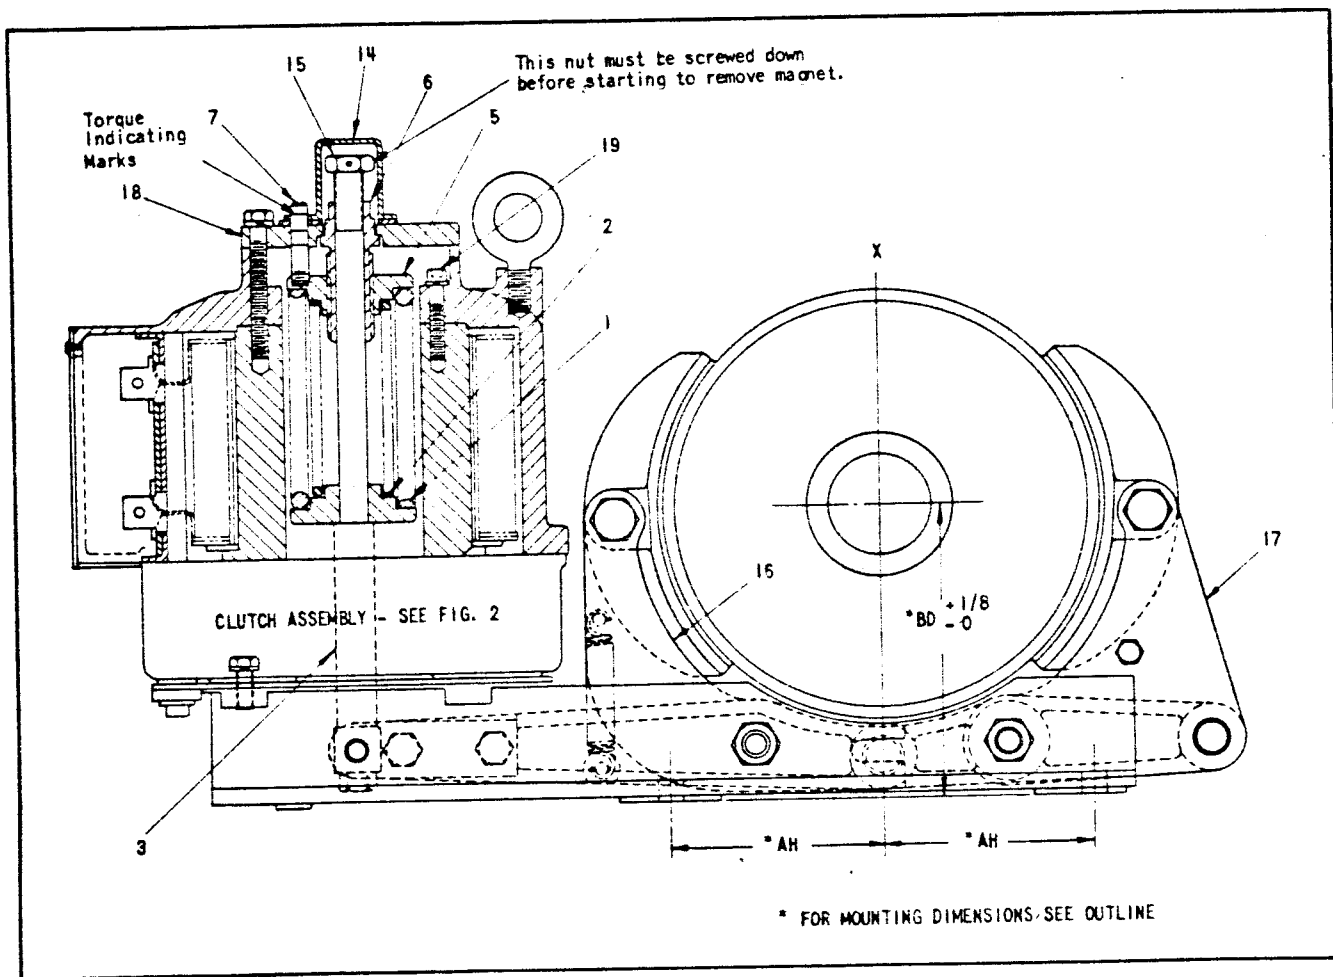
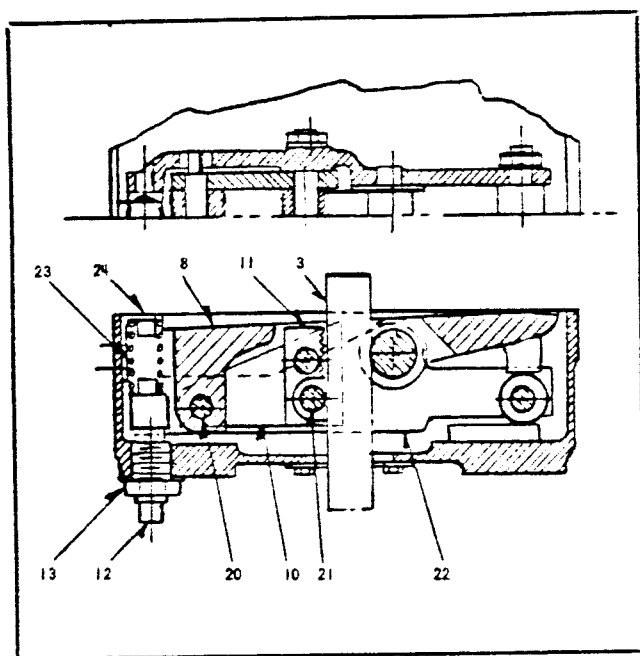

FIG. 1. Type SA Brake Assembly
FIG. 2. Clutch Assembly
3. Description of Operation—See Fig. 1 and Fig. 2.
a. Compression springs 1 and 2—Fig. 1—exert a downward force on spindle 3 which, acting on end of lever 4 applies shoes against wheel with equal force. The amount of the spring force is adjusted by raising or lowering the upper spring seat 5 by means of adjusting bushing 6. Turning this bushing counter-clockwise increases the spring compression, and turning clockwise decreases it. An indicating pin 7 shows the torque rating for each frame.
b. When the coil is energized, the clapper 8—Fig. 2—is attracted upwards and being connected by pin 20 to the ends of short levers 10, which are pivoted on pin 21, moves clutch block 11 against spindle 3. Pin 21 is mounted between long levers 22, the ends of which are held down by spring 23, until the upward force is sufficient to overcome the force of spring 23. Since both the clutch block and spindle have fine pitched teeth cut on the mating surfaces, they are now solidly engaged and the continued movement of the clapper lifts the spindle against the force of the compression springs and releases the wheel.
d. The disengaged position of the clapper assembly is fixed by the position of the adjusting plug 12—Fig. 2—which is threaded through the bottom of the housing which surrounds the clapper assembly. Unscrewing this adjusting plug will increase the travel of the spindle and screwing it up will decrease the travel. Once this adjustment is made to obtain the proper shoe clearance the adjusting plug should be locked by means of the locknut 13.
b. To remove wheel from brake as received, remove cap 14—Fig. 1—and cotter key from top spindle nut 15. Loosen shoe bolts and turn spindle nut down until wheel is free. Lift out wheel and mount on motor shaft. Place brake on mounting surface and insert mounting bolts hand tight. Back off spindle nut to allow shoes to set on wheel, and bump brake into position so that linings fit square across the face of the wheel. Tighten mounting bolts and insert cotter key in top spindle nut. Tighten shoe bolts.
measurement should agree with spindle travel dimension given on nameplate and is normally set at the factory. If, however, the spindle travel as measured does not agree, loosen locknut 13—Fig. 2—and unscrew adjusting plug 12 to increase spindle travel. To increase spindle travel by $\frac{1}{32}$ inch will require backing off adjusting plug $\frac{1}{16}$ inch. When proper travel has been obtained, tighten up locknut, and replace cap 14—Fig. 1.
b. On frames 1355, 1665, 1985 and 2311, the brake shoe arms 16, 17—Fig. 1—and main lever 4—Fig. 1—are fitted with "Oulite" bearings. A few drops of oil around these bearings occasionally will maintain their lubricated quality.
a. Remove cap 14—Fig. 1—and cotter key from top spindle nut 15. Turn nut down until shoes are free of wheel. Remove top plate 18 of magnet. Disconnect coil leads and remove flange bolts holding magnet housing to clutch housing. Lift up magnet housing and set on floor or bench.
a. To remove clapper assembly, remove magnet as directed in paragraph 9(a) and remove spring bracket 24 and spring 23, Fig. 2.